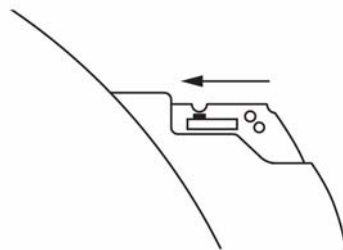

Figure 3.5 RS-232
5. Reposition the slide switch located on the main board of the AutoDome. Slide the switch toward the camera head, inward and away from the LEDs. See *Figure 3.5*.